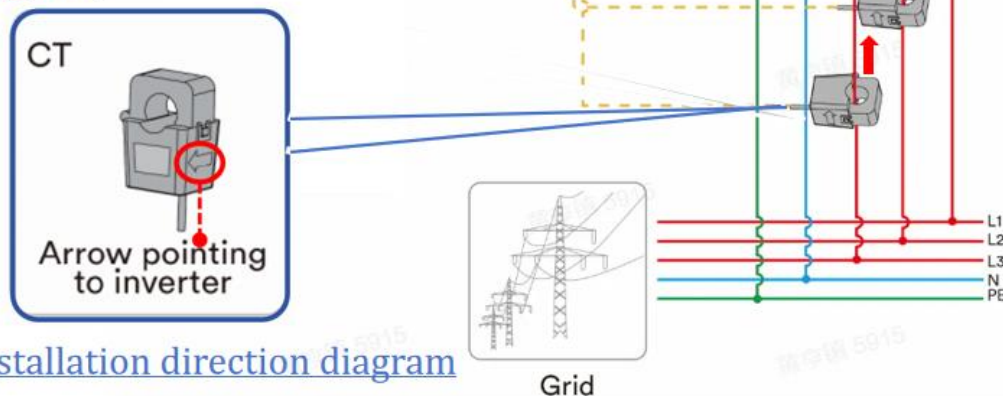

Figure 1: CTs installation direction diagram
Step 1: Connecting the meter to the grid cable, please see Figure 1.
Step 1: Connecting the CTs to the grid cable, please see Figure 1.